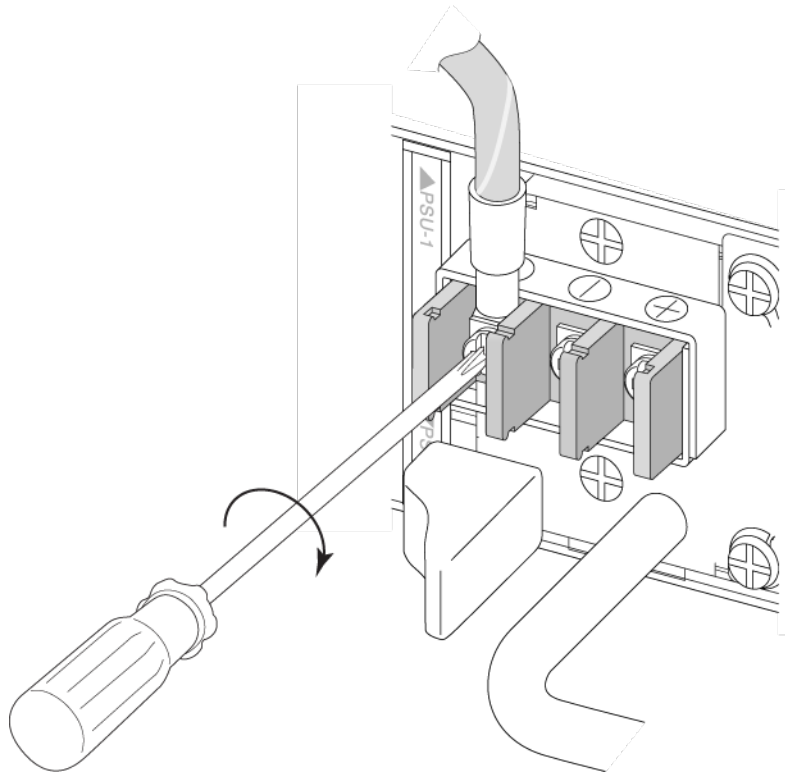

Figure 151: Securing the Ground Wire
- c Tighten the screw to 7 in-lb (0.79 N m) as shown in Figure 151.